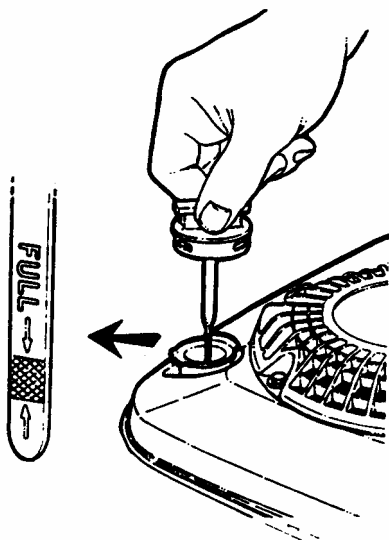

FIGURE 2.2
2.1.4. Check engine oil and add oil as needed to bring level up to the full mark. Refer to Engine Owner's Manual for oil specifications. See Figure 2.2.